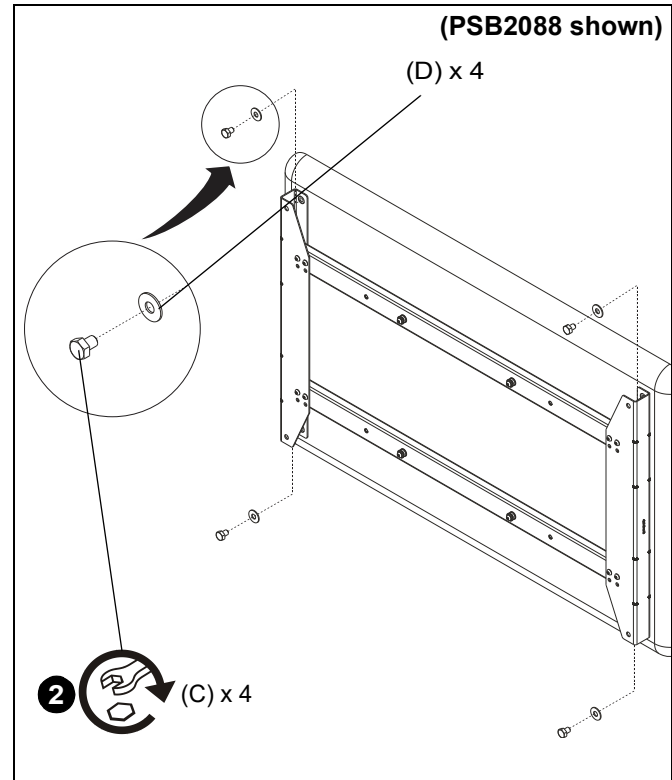

Figure 2
2. Attach vertical brackets (A) to back of display using four M12 x 16mm hex head cap head screws (C) and four 7/16" washers (D). (See Figure 2)